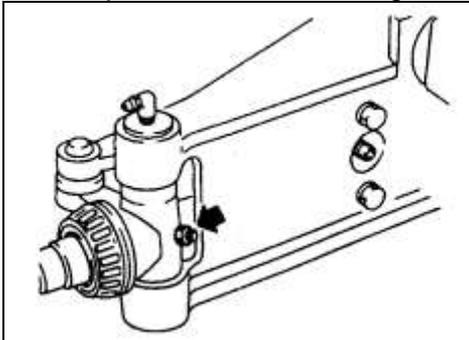

Fig. 4-2
- 2) Loose lock bolts.(see fig.4-2);